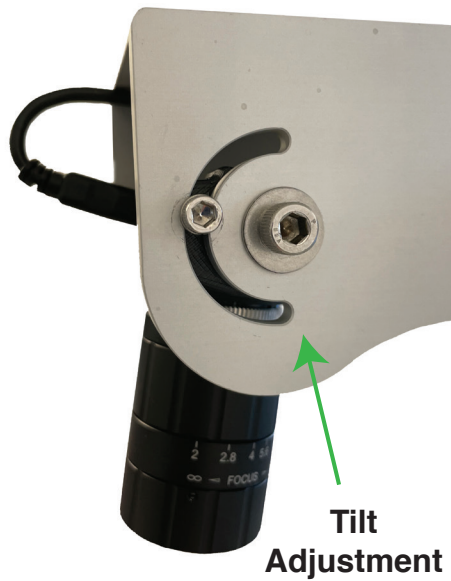

Fig. 3-3
3. Place the cameras on the end of the poles. Use the angle adjustment knobs (see Fig. 3-3) to position the cameras in the approximate location, but the final adjustment will be set during the camera calibration step.